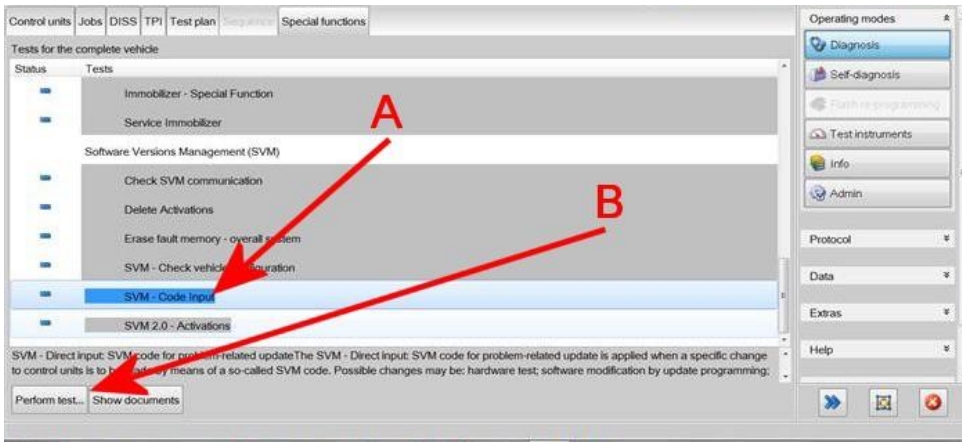

Figure 13
- Referring to Figure 13- Within the Special functions tab select SVM – Code Input (A) then select Perform test (B)